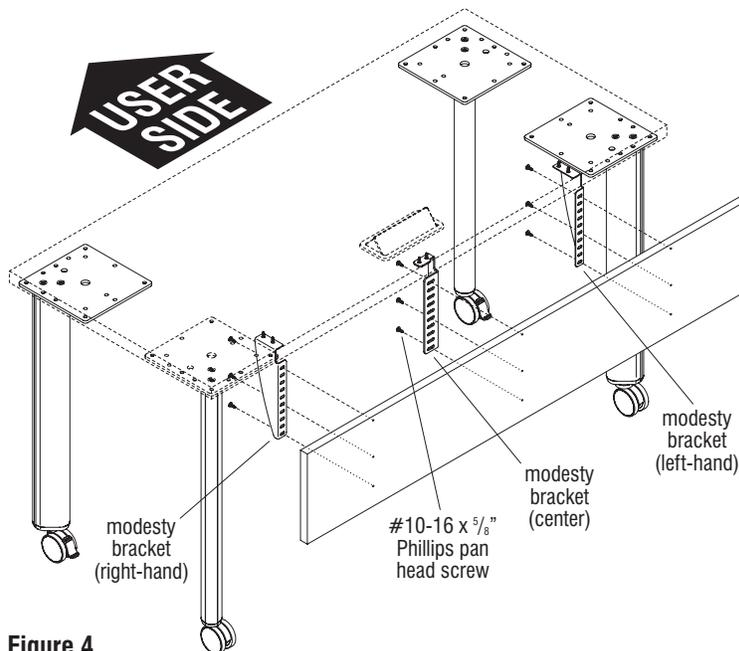

Figure 4
2. With the assistance of a second person, carefully position the laminate modesty panel up to the modesty panel brackets in the correct orientation (Figure 4).
3. Secure the modesty panel to the modesty panel brackets using three #10 x 5/8" screws per bracket on the user side of the table (Figure 4).